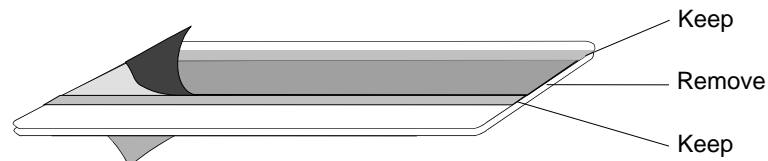

Figure 4-9: Duplex/laminator cleaning card
- 2 Peel the middle strip of protective paper from both sides of the duplex/laminator cleaning card (see Figure 4-9).